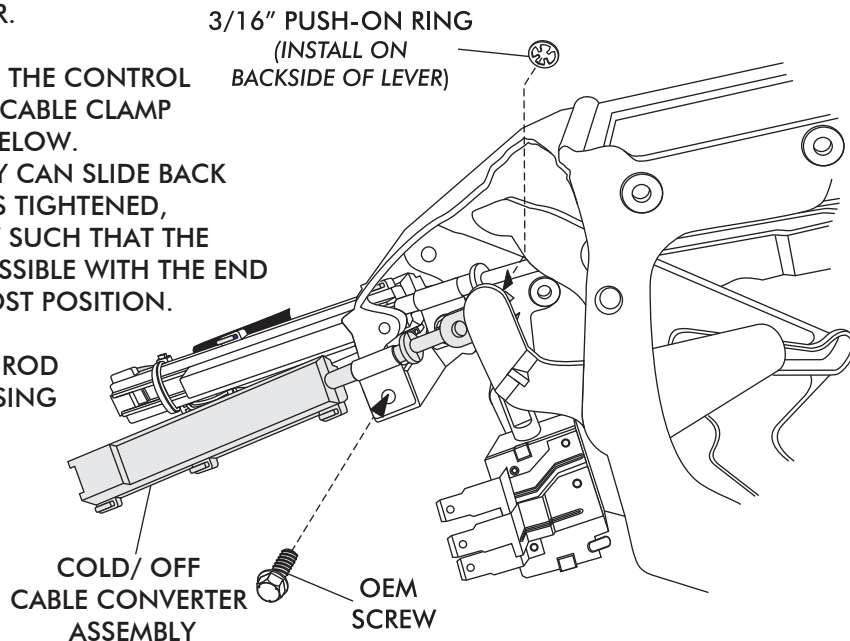

FIGURE 7
- INSTALL CABLE CONVERTER ASM ON THE COLD/ OFF LEVER. SEE FIGURE 7 BELOW.
- INSTALL CABLE CONVERTER LEVER PUSH ROD ONTO OEM CABLE MOUNTING STUD ON LEVER. SEE FIGURE 7 BELOW.
- SECURE THE CABLE CONVERTER ASM TO THE CONTROL PANEL USING OEM SCREW IN THE OEM CABLE CLAMP MOUNTING LOCATION. SEE FIGURE 7 BELOW.
- SECURE CABLE CONVERTER LEVER PUSH ROD ONTO OEM CALBE MOUNTING STUD USING 3/ 16" PUSH-ON RING AS SHOWN IN FIGURE 7 BELOW.